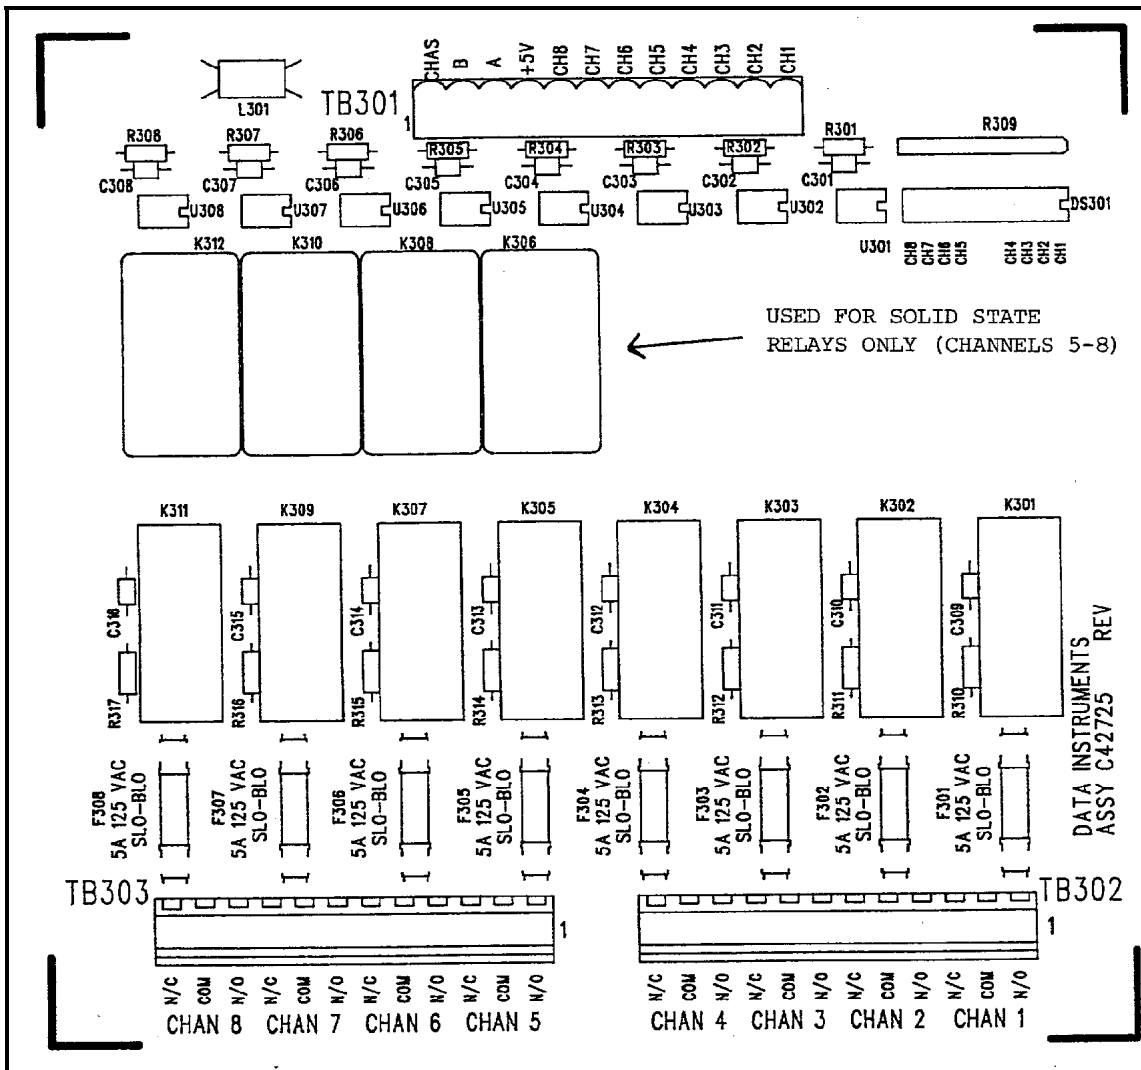

Figure 2-30b. Cam outputs board assembly
- a. If you are using only *standard relays* in your programmable cam (not optional solid state relays), they are plugged into channels 1 through 8 — terminals labeled K301 through K305, K307, K309, and K311 (see Figure 2-30b).